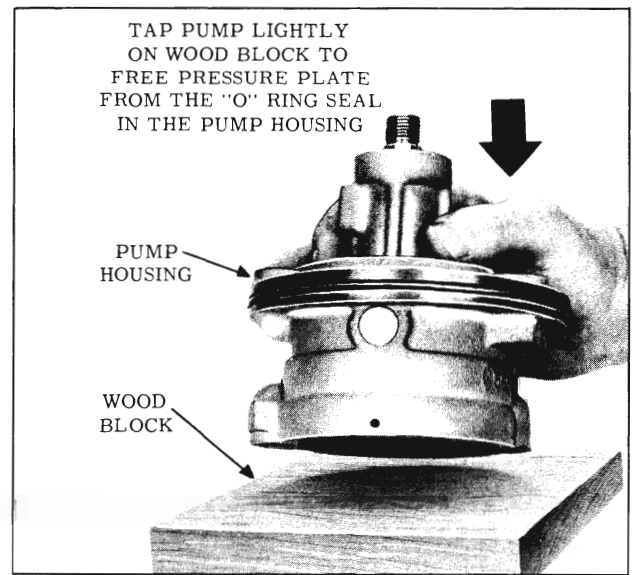

Fig. 4-233 Removing Pressure Plate
8. With pump housing turned over, tap housing on wood block until pressure plate falls free. (Fig. 4-233) Flow control valve will come out also.